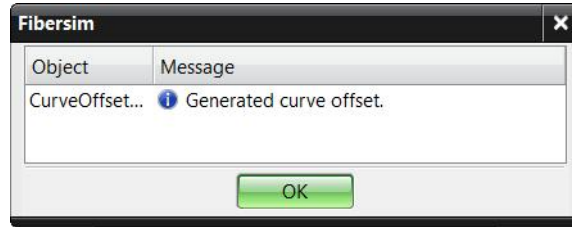

Figure 6–17
- The Fibersim message window opens, prompting you that the curve offset was generated successfully as shown in Figure 6–17.